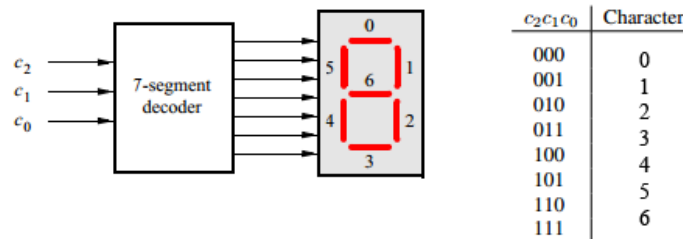

Figure 2: 7 segment display and decoder
The 7-segment display is comprised of 7 LEDs that are arranged in such a way that allows for the creation of the numbers 0-9 and a select few characters with some clever use. Figure 2 shows the block diagram and output table. Your task is to create a 3 input, 7 output decoder that will display a number from 0-6. To accomplish this task, you should program the switches SW(0) - SW(6) to make the first 7 displays show the numbers 0-6 when its switch is turned on.